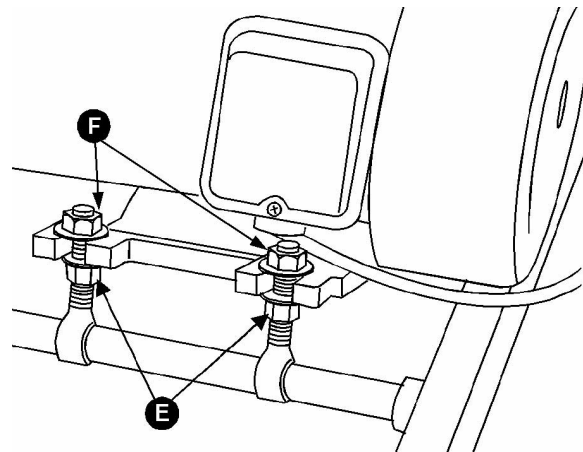

Figure 11
3. If adjustment of belt tension is necessary, loosen one pair of hex nuts (E & F, Fig. 11) and turn the other pair to raise or lower the motor plate. Re-tighten nuts.